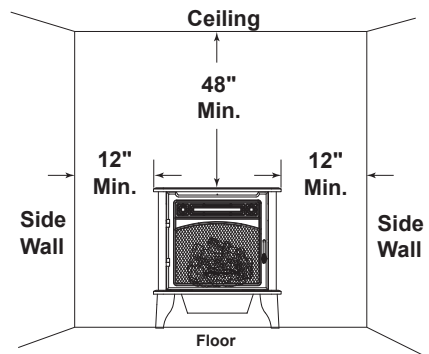

Figure 4 - Minimum Clearance to Wall and Ceiling
**IMPORTANT:** You must maintain minimum wall and ceiling clearances during installation. The minimum clearances are shown in Figure 4. Measure from outermost point of heater.